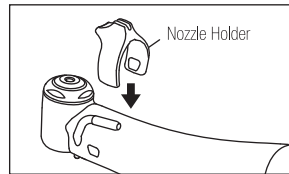

Fig. 6
1) Attach the Nozzle Holder. (Fig.6)